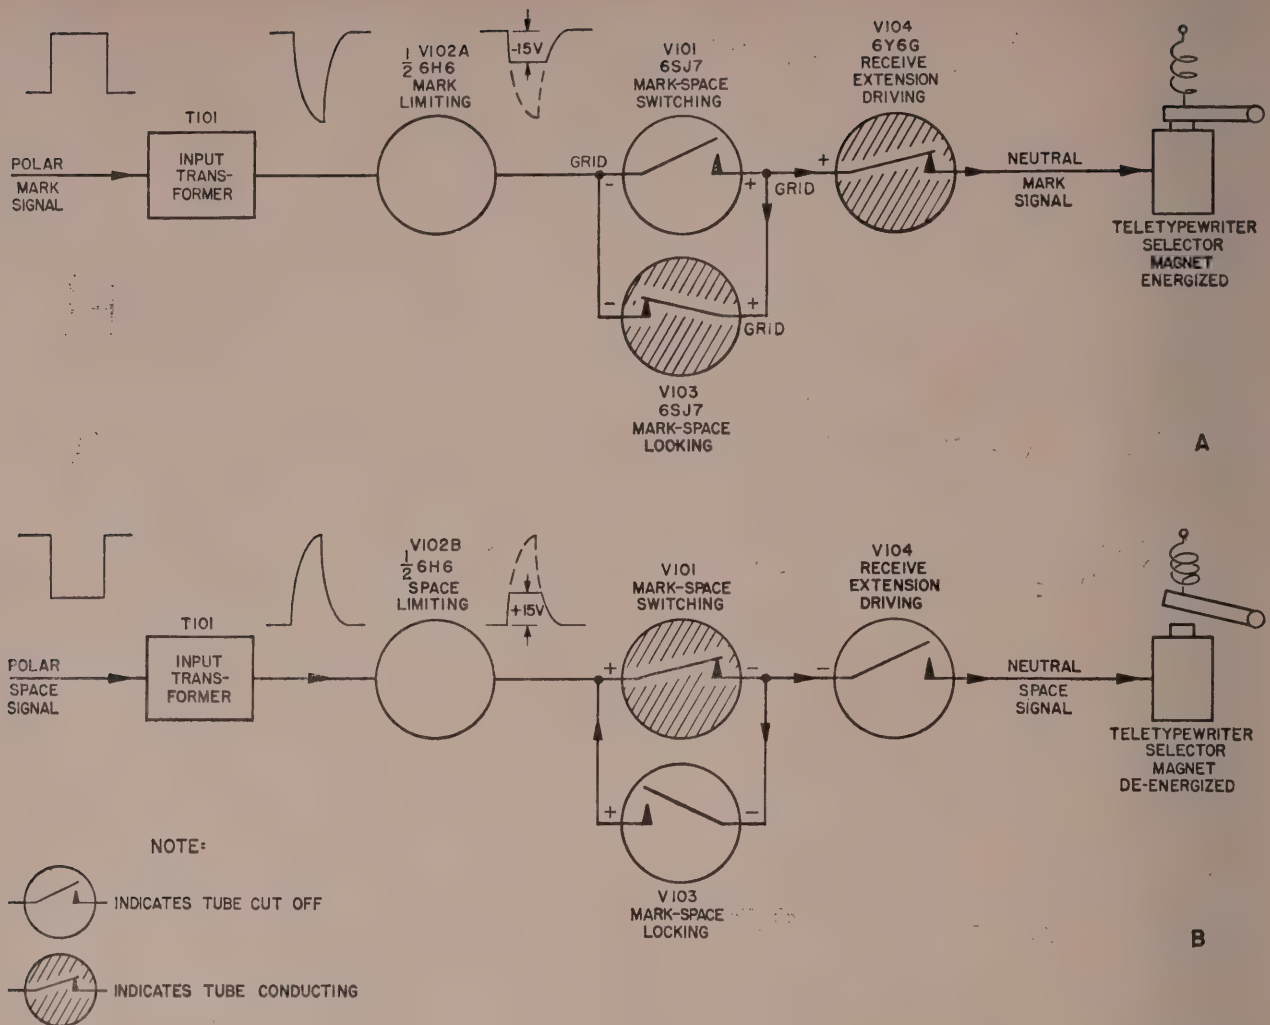

Figure 13. Control unit receiving circuit, sequence of tube operation for mark and space signals.
29. Receiving Circuit Signal Path (fig. 13)
b. The three amplifier tubes of the receiving circuit (V101, V103, and V104 of fig. 13) do not function as conventional amplifiers but act like switches which are either on (conducting) or off (nonconducting). A tube that is off applies a positive potential to the grid of the following tube, turning it on. This second tube then applies a negative voltage considerably greater than cut-off to the grid of the next tube, turning it off. These positive and negative potentials are indicated by plus (+) and minus (—) signs at the inputs and outputs of the symbols indicating tubes in the functional block diagram of the receiving circuit (fig. 13). The amplifier tubes are drawn as switches and inclosed in circles on the block
c. The sequence of tube operation produced by a mark signal is shown in A, figure 13. When a mark signal is applied to the primary of input transformer T101, a rising negative voltage appears across the secondary. As the secondary voltage increases beyond —15 volts, the mark-clipping half of V102 conducts and limits the secondary voltage to approximately that value. The secondary voltage applied to the grid of mark-space switching tube V101 is negative with respect to the V101 cathode, and is greater than the grid cut-off value of V101. Tube V101 is turned *off*, its plate voltage rises, and a positive voltage is applied to the grids of receive extension driving tube V104 and mark-space locking tube V103. Tube V103 conducts and the voltage at its plate becomes negative with respect to the grid of V101. The grid circuit of V101 is connected to the plate
d. When a space signal arrives at the primary of T101, the primary current flow reverses, inducing a positive secondary voltage. The rising secondary voltage initiates the sequence of receiving circuit tube operation shown in B, figure 13. As the secondary voltage rises above +15 volts, the space-limiting half of V102 conducts and limits the voltage